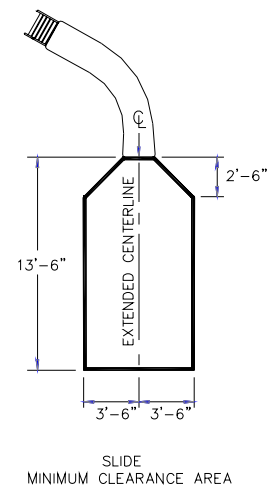

FIG. 13
- A. The minimum clearance distance on either side of the extended centerline of the slide runway shall not be less than three feet six inches (3'-6") at a point no less than two feet six inches (2'-6") from the exit lip of the slide and extending a distance of thirteen feet six inches (13'-6") in front of the slide as shown in **FIG. 13**.